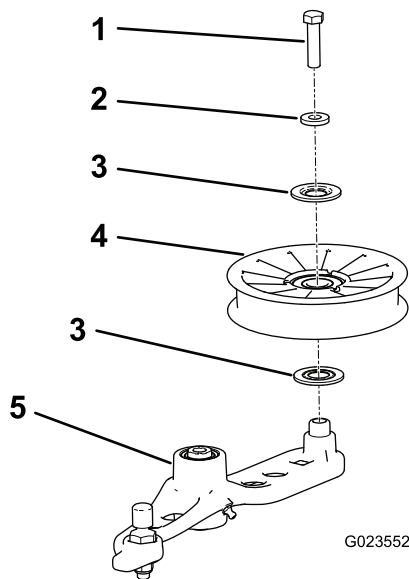

Figure 57
6. Remove the bolt securing the old tensioner pulley to the tensioner arm, and install a new pulley (Figure 57).